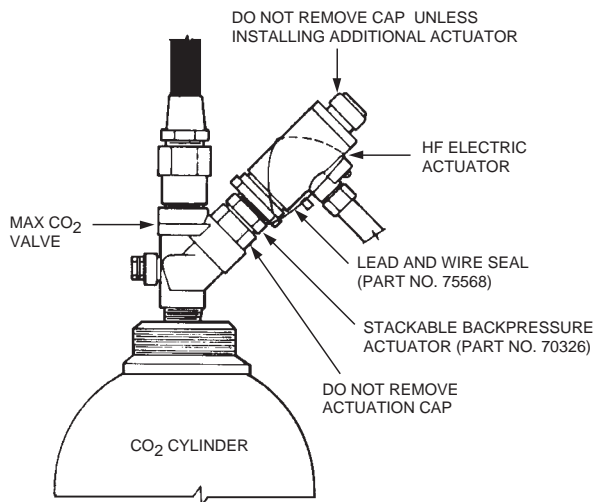

FIGURE 10
1. Remove the standard backpressure actuator from MAX valve actuation cap. Do not remove valve actuation cap. (See Figure 10.)